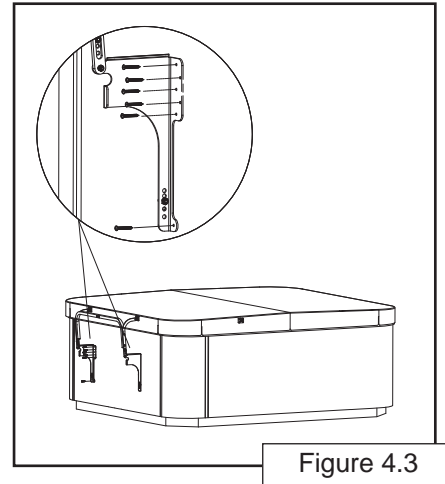

Figure 4.3
2. Using the Mounting Bracket (bottom part of the Pivot Assembly) as a template, predrill 1/8" holes into the back of the spa (Figure 4.3) with 1/2" max. depth. There are (6) holes per Mounting Bracket.